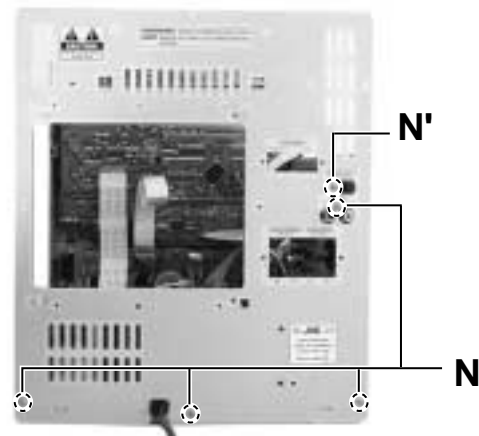

Fig.18
■ Removing the rear cover **(See Fig.18)**